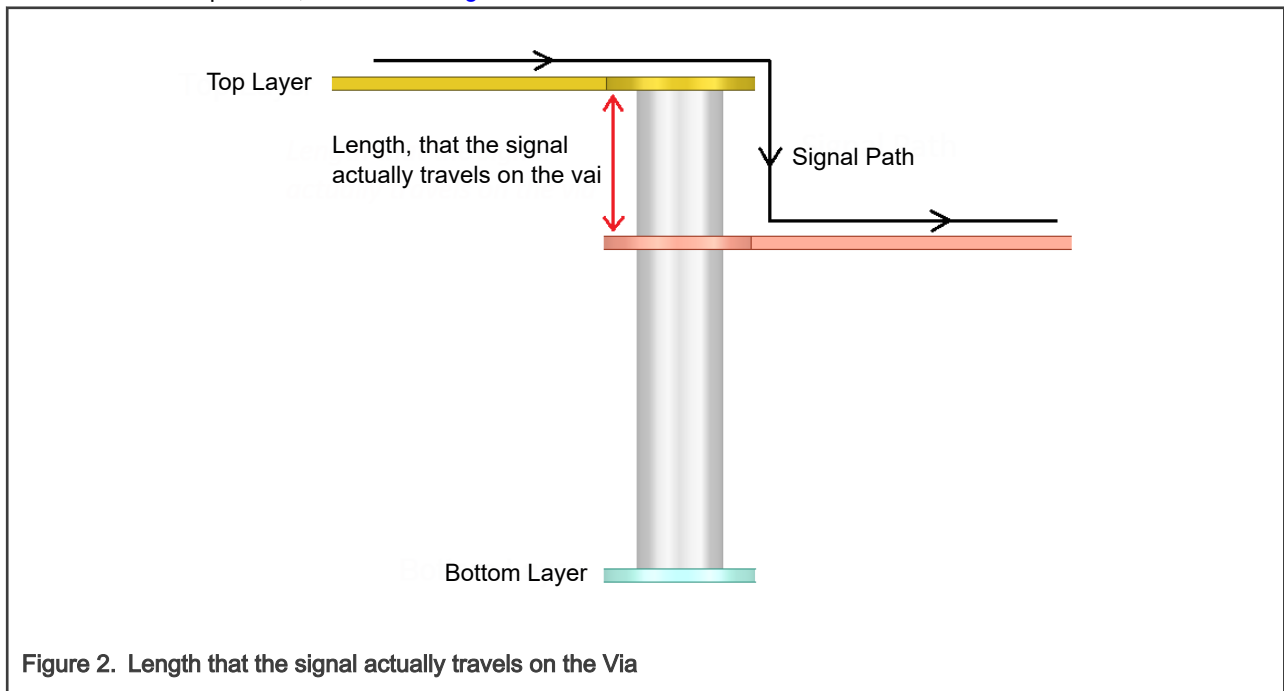

Figure 2. Length that the signal actually travels on the Via
4. At speed of 3000 MT/s, signal vias can be a significant source of crosstalk. If not properly designed, it can introduce crosstalk larger than that from the trace. To minimize via crosstalk, make sure that the total number of vias to be two or less on each point-to-point single-ended/differential trace. Place at least one ground-stitching via within 50 mils of the signal via when switching reference planes to provide a continuous return path and reduce crosstalk. If it is not possible to place enough ground-stitching vias due to space limitation, try to make the length that the signal actually travels on the via as short as possible, as shown in Figure 2.